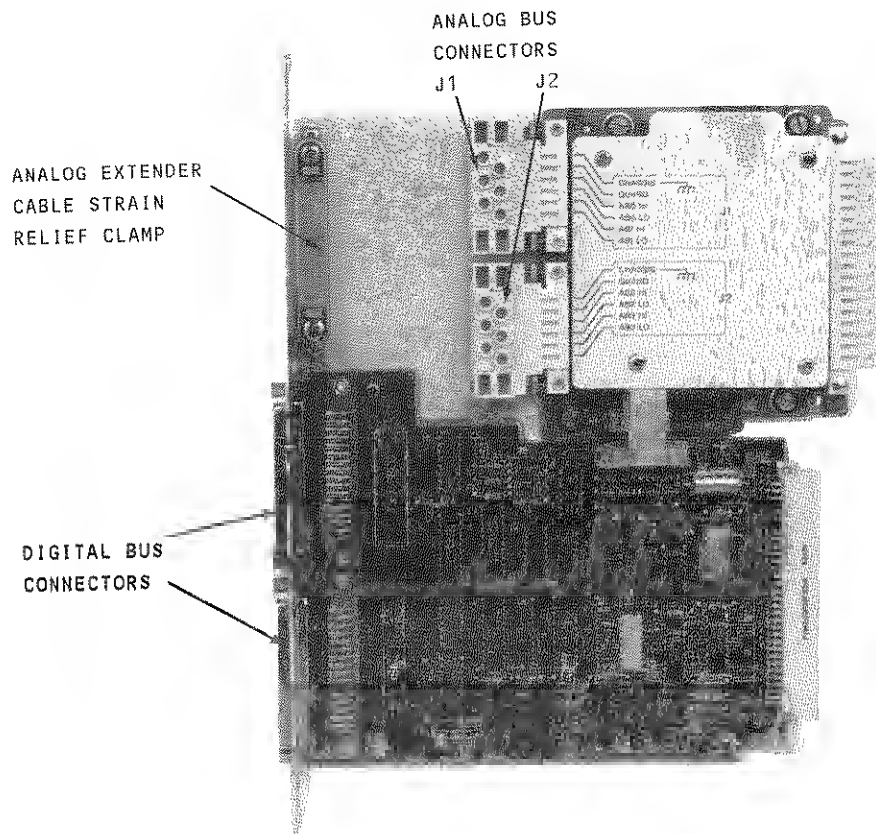

Figure 13. HP 34560-Extender Module.
- a. Unpack the HP 34560 Extender Modules (one for the mainframe and each extender). An HP 34560 Extender Module is shown in Figure 13.